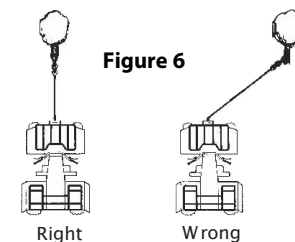

Figure 6
11. AVOID CONTINUOUS PULLS FROM EXTREME ANGLES as this will cause the winch rope to pile up on one end of the drum (Figure 6). This can jam the winch rope in the winch, causing damage to the rope or the winch.